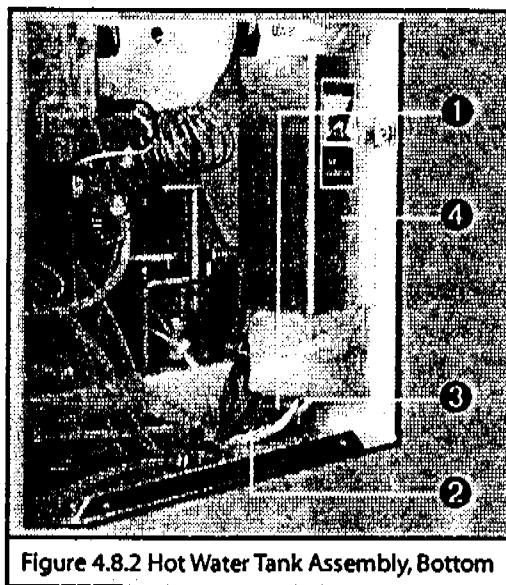

Figure 4.8.2 Hot Water Tank Assembly, Bottom
6. Remove the two 5/16" nuts and lockwashers (❸, not shown) from each side of the metal bracket with a 5/16" nut driver.
7. The tank may be full of water and must be emptied. Disconnect the water line (❹) that leads to the rear of the unit and place into a drain container (large enough to hold at least 70mL).
8. Disconnect the 1/8" brass nut (❺) from the brass elbow fitting on top of the heater. The contents of the tank will drain into the drain container.
9. After the tank drains entirely of water, disconnect the 1/8" brass nut from the bottom of the tank (❻, Figure 4.8.2).